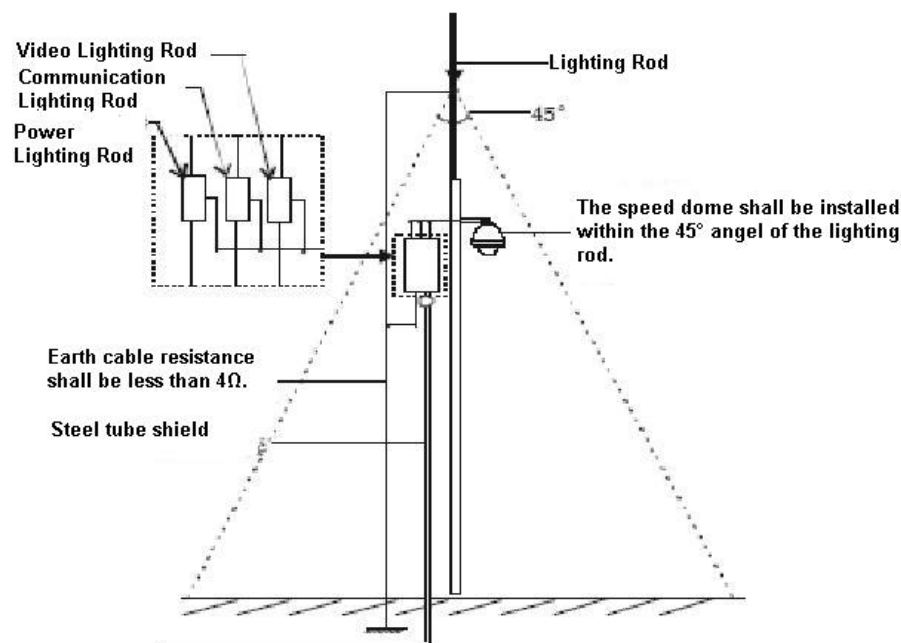

Figure 4-1
- System shall adopt equal-potential wiring. The earth device shall meet anti-jamming and at the same time conforms to your local electrical safety code. The earth device shall not short circuit to N (neutral) line of high voltage power grid or mixed with other wires. When connect the system to the earth alone, the earth resistance shall not be more than  $4\ \Omega$  and earth cable cross-sectional area shall below  $25\ \text{mm}^2$ . See Figure 4-1.